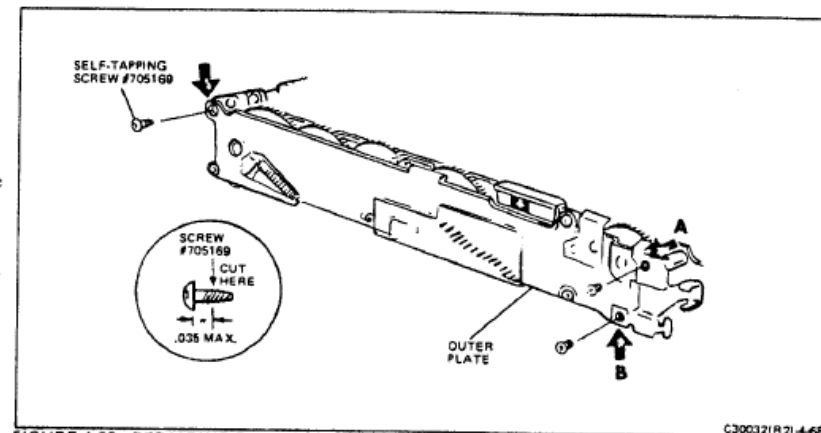

FIGURE 4-68 REPAIRING DAMAGED STUDS IN THE OUTER PLATE CABLE RESTRAINER
In making repairs to the camera or any accidental dropping of the camera could damage the metal studs used to secure the cable restrainer to the outer plate. This procedure tells you how to solve this problem without replacing the whole bottom plate. (Refer to Figure 4-68.)
- (g) Lock the assembly in the raised position as shown in Figure 4-68 "A" by setting the erecting link into the slot between the front cover and the inner frame.